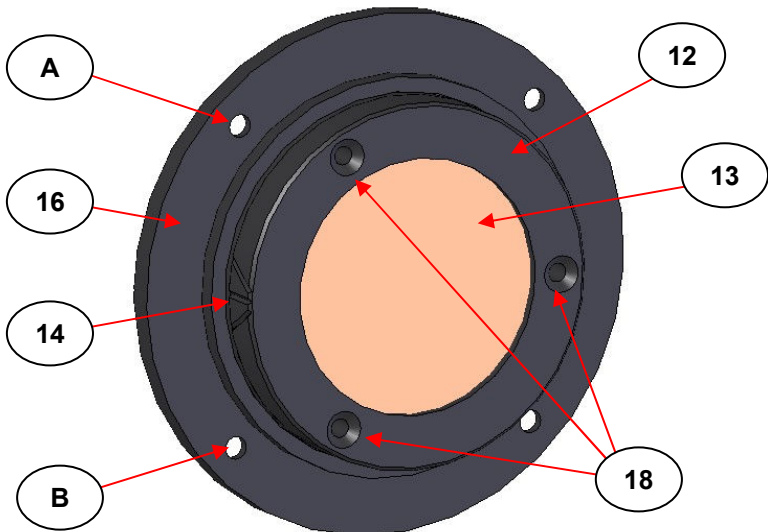

Fig 12. GS57010 Series Polarizer Correctly Orientated to Circular Plate of GS12510 Series Rotator Mount
With the three screws (17) removed, lay the circular plate (16) on a flat surface with the rear face upper most and place the GS57010 Series polarizer very carefully with the polarizer grid surface on the substrate (13) uppermost over the three screw holes in the circular plate (16) to align with the three fixing holes (18) in the polarizer ring mount (12). The 'V' notch mark (14) on the ring mount (12) **must be positioned** between the two holes (A) and (B) as seen from Fig 12. to coincide with the polarizer being fixed at the correct 90° angular setting for the grid orientation.